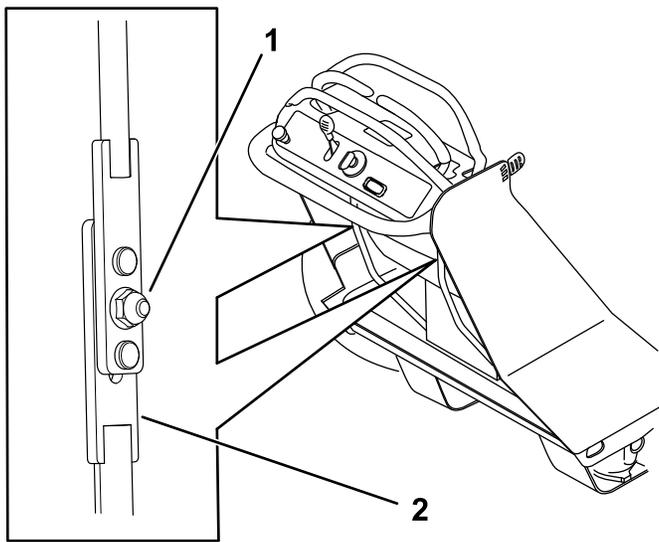

Figure 45
4. Loosen the nut for control-rod assembly (Figure 45).
6. To find the neutral position, move the lower control rod up or down until the tire stops rotating (Figure 45).
7. Tighten the nut (Figure 45).
3. Rotate the adjustment screw shown in Figure 45 to increase or decrease the speed for that lever.